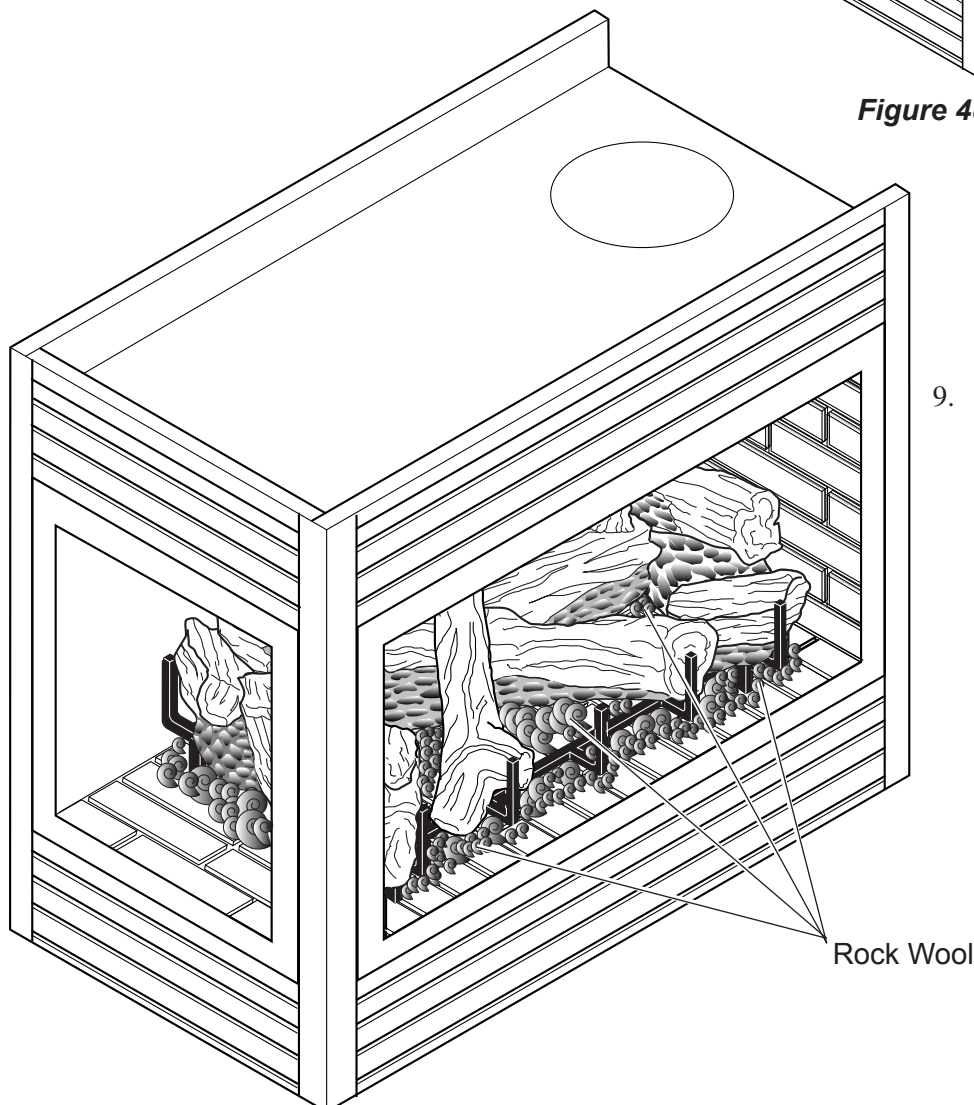

Figure 49 - Rock Wool Placement
- Break up rock wool (ember material) into dime-sized pieces. Place evenly across burner surface and mesh of grate. See Figure 49. Do not exceed 1" depth of coverage.